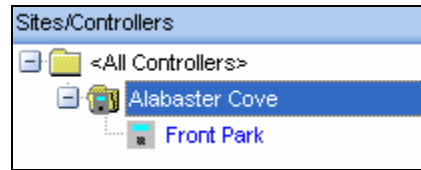

Figure 4.4.4
2. Click on the “+” sign to the left of the site name to reveal the controller list attached to this site (Figure 4.4.4).